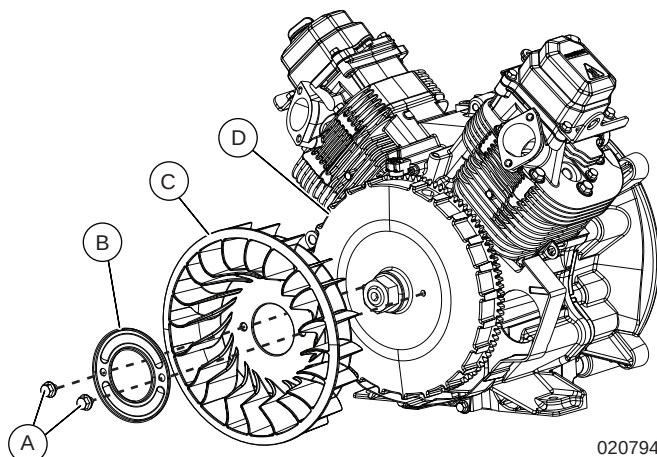

Figure 6-28. Remove Fan
1. See Figure 6-28. Remove two fasteners (A), fan plate (B), and fan (C) from flywheel (D).